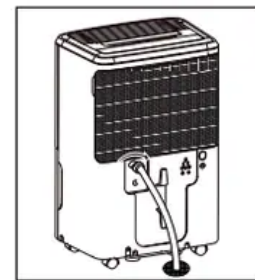

fig. 4
7. Place the end of the hose into the drain. (fig.4)